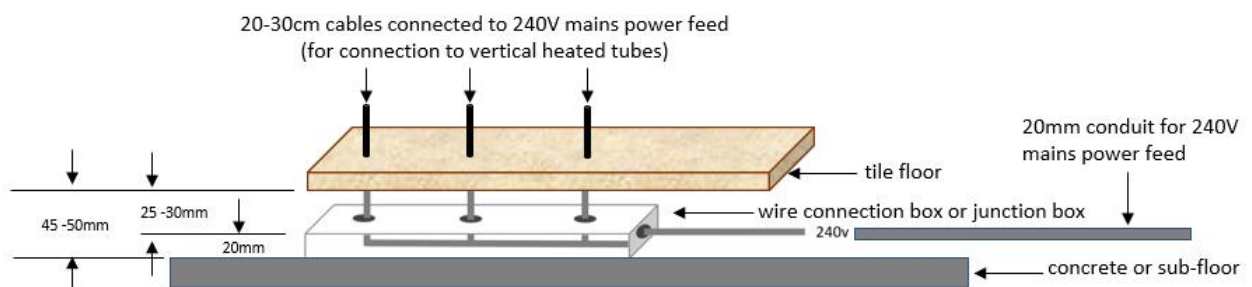

Fig. 1
**Step 6:** Installation process, your Tiler can complete the tile laying for the main floor area and for the tile/tiles where heated tubes are to be located. Tiles will require 3 holes (6mm dia.- refer to Fig.2) for mounting each floor tube as well as a hole in the centre (8mm - 10mm dia. – refer to Fig 1) of the mounting area where the electrical cord for each floor tube will feed up through the tiled floor from the wire connection box or junction box. Your Tiler can pre-drill all holes ready for floor tube installation. 12 holes in total will be required for installation area.